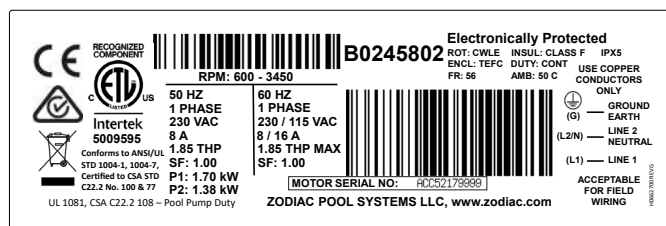

Figure 12. Motor Rating Plate Label
1. Please refer to the motor rating label to find the motor serial number. Example is shown in Fig. 12.